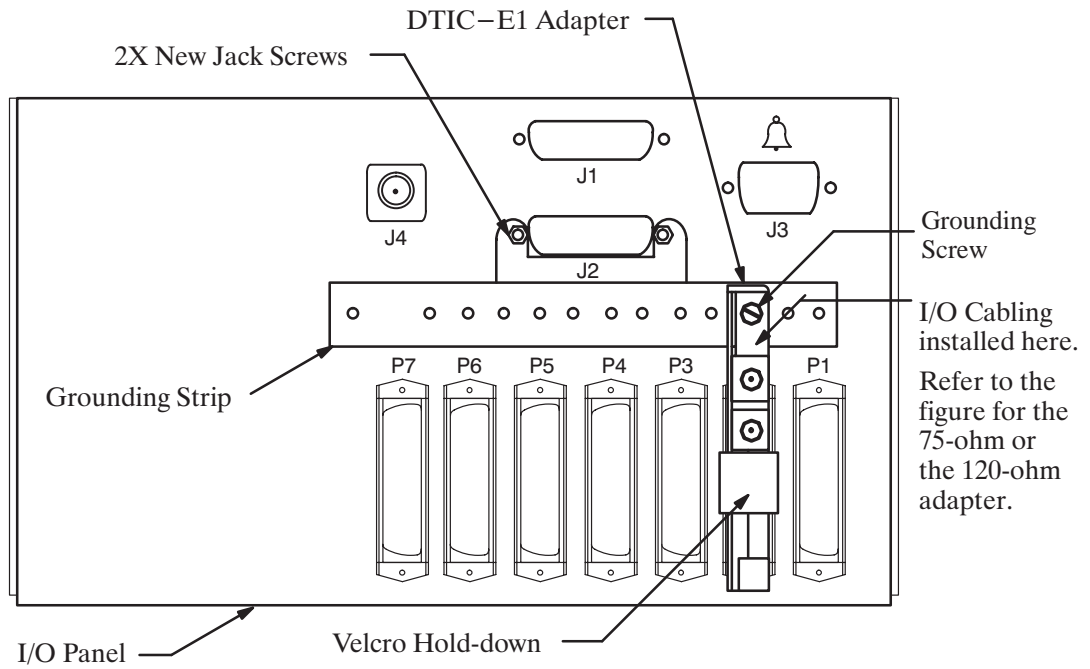
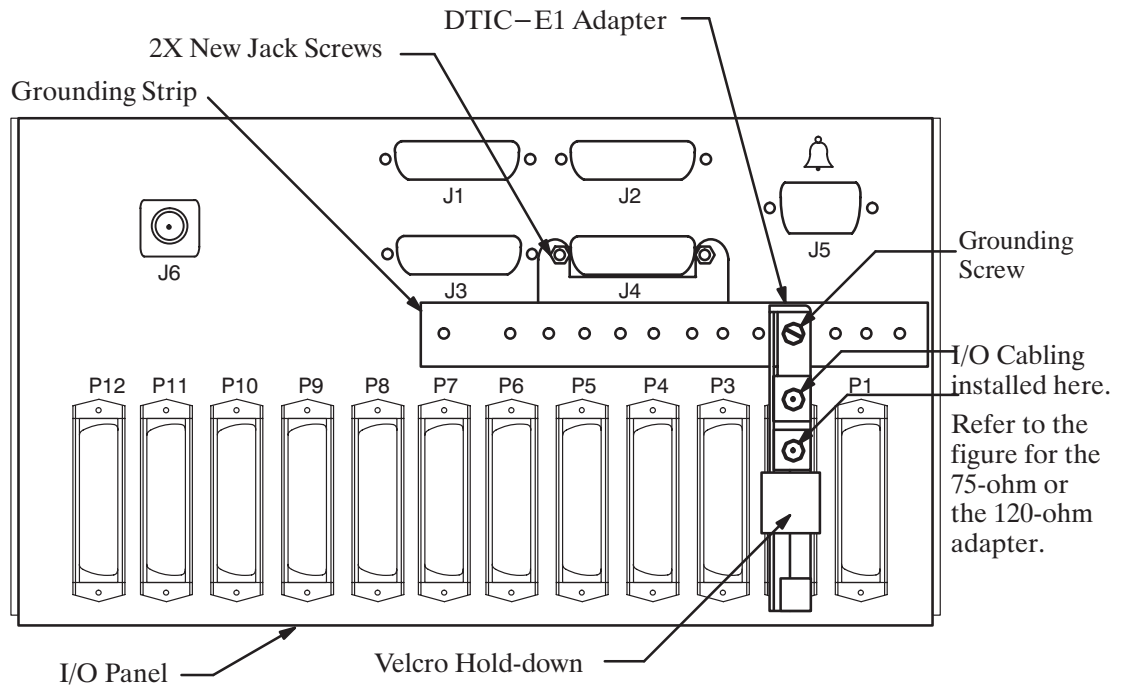

Figure 9-11 DTIC-E1 Kit Installation for the Octel Overture 200
Figure 9-12 DTIC-E1 Kit Installation for the Octel Overture 300
2. Remove two jack screws and washers securing the connector marked J2 (for the Octel Overture 200) or J4 (for the Octel Overture 300) to the I/O panel on the back of the system. Refer to Figure 9-11 for the Octel Overture 200 or Figure 9-12 for the Octel Overture 300.
3. Using two new jack screws provided with the kit and washers just removed, attach the grounding strip where shown in Figure 9-11 for the Octel Overture 200 or Figure 9-12 for the Octel Overture 300.